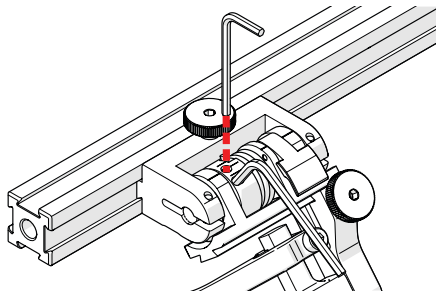

Fig. 82 - Insert hex wrenches
4. Place the 2 mm hex wrench into the force adjustment screw (Fig. 82).